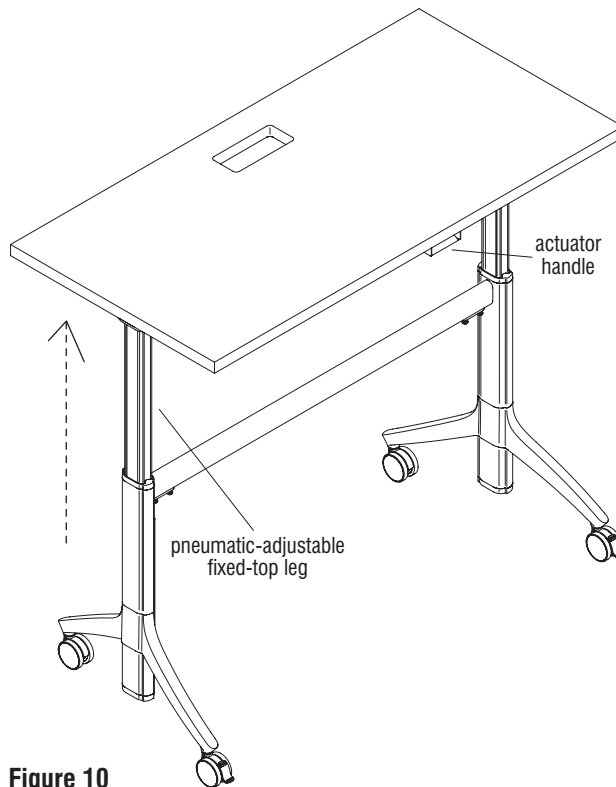

Figure 10
27. Carefully turn the table to the upright position (Figure 10).
28. Locate the height actuator handle at the front, user side of the table and raise the table about half the height of the table fully extended. At this time, secure the stringer to the stringer attachment bracket by fully tightening two $\frac{1}{4}$ -20 x $\frac{5}{8}$ " Torx head screws on the underside of the stringer, at each end (Figure 10 & Detail S).